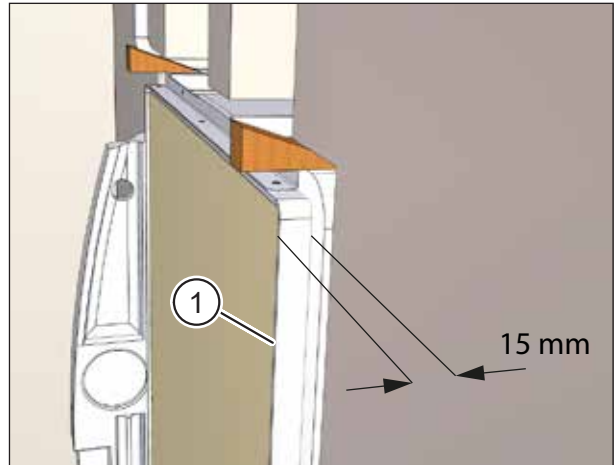

Fig. 25: Depth of plastering trim 15 mm
The plastering trim is 15 mm deep (see Fig. 25).
- ▶ If the interior wall is not perpendicular or flat, align the front surface of the plastering trim (item 1 in Fig. 25) parallel to a plaster stop bead running vertically.